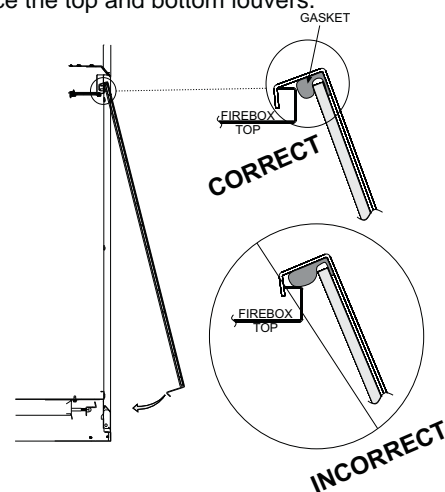

Figure 80
1. When installing the Glass Door assembly, make sure that the door top flange is hooked over the firebox top flange as illustrated in the "Correct" view in Figure 80.
Important: Do not allow the gasket across the top of the door to roll up on top of the firebox flange as shown in "Incorrect" view in Figure 80.